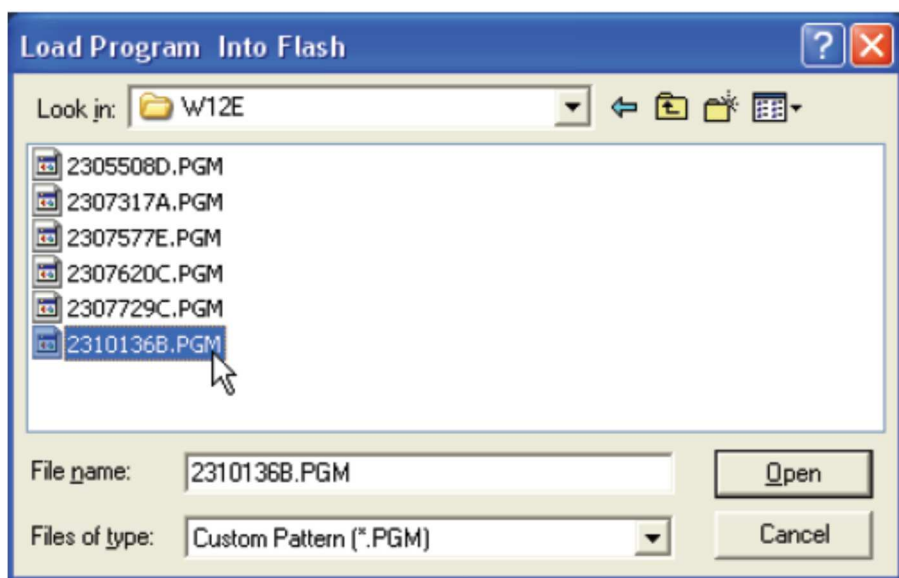
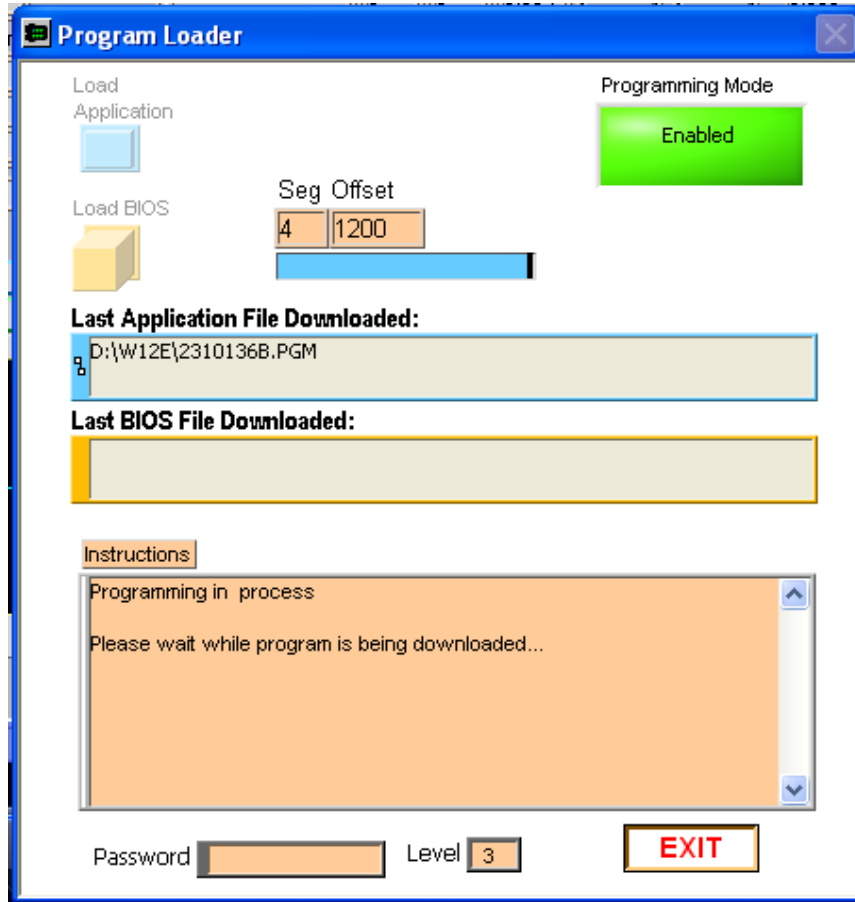
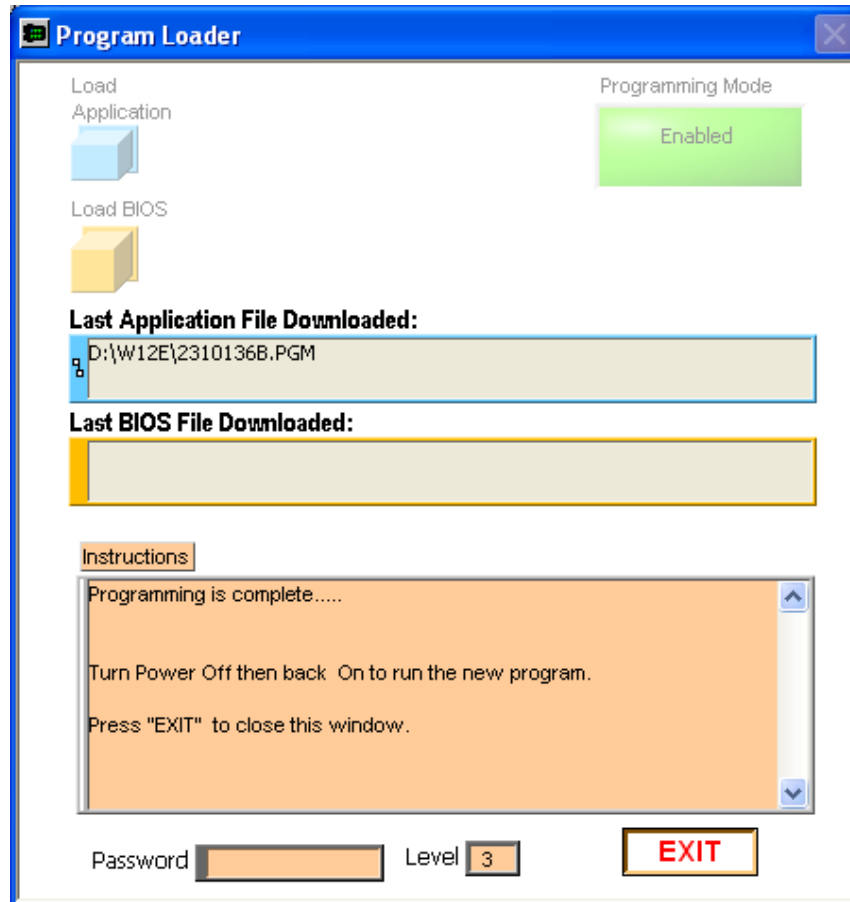

Figure 7 – Program selection
Figure 8 – Program loading in process
Figure 9 – Program loading complete
- 11) Select the program, as shown in Figure 7, as an example, then select “Open” and wait for the file to be flashed onto the ECM. Depending on the speed of your computer, this may take several minutes (see Figure 8). When the process of flashing the ECM module is complete, the screen will be as shown in Figure 9.